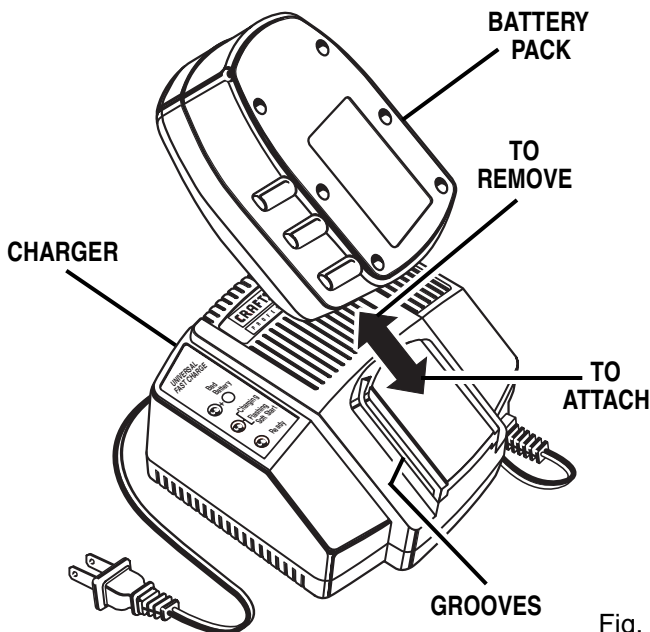

Fig. 9
- Attach battery pack to charger by aligning raised ribs on battery pack with grooves in charger, then slide battery back onto charger. *See Figure 9.*